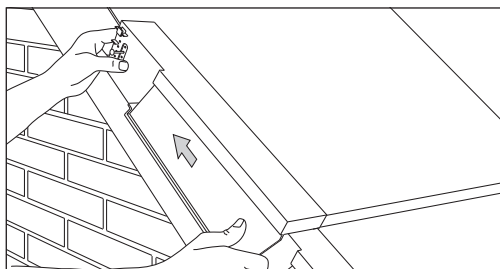

Fig 5 Slide up each unit to interlock
- 9 Successive dry verge units are interlocked together by sliding upwards against unit below, ensuring that lugs on outside of verge unit fit into internal locating slots (Fig 5).